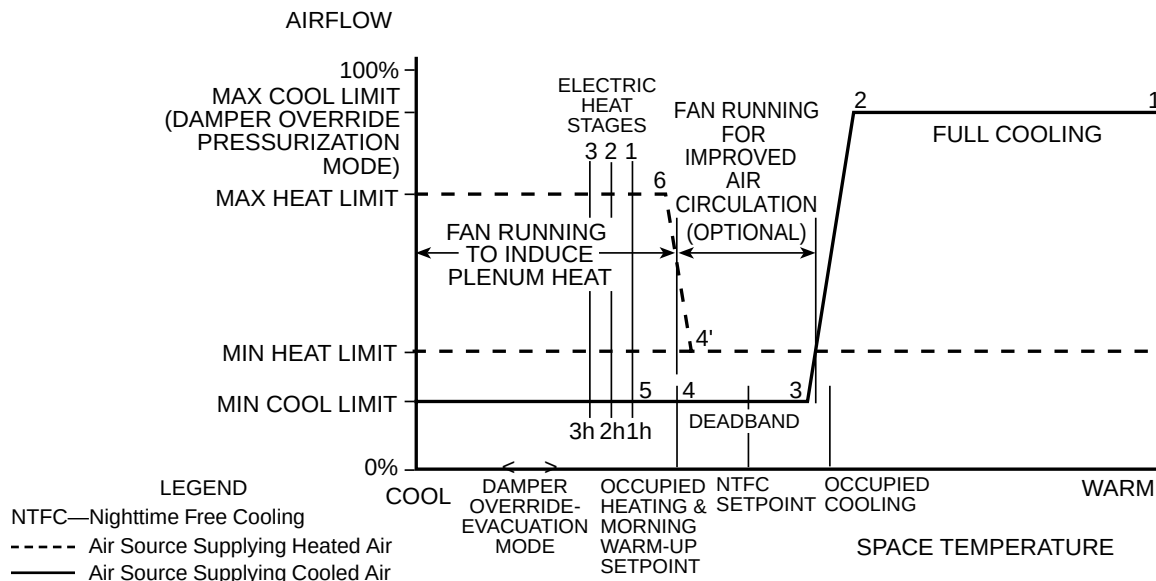

Figure 2 - Sequence of Operation for Intermittent Fan Powered Air Terminal With Staged Electric Heat
- A. Cooling: (refer to numbers on flow diagram). See Fig. 2.
- B. Auxiliary electric heating: (when the primary air source is cooling, refer to numbers on flow diagram). See Fig. 2. The installer is responsible for proper temperature, no more than 120 F maximum discharge from the heating
C. Heating: (when the primary air source is providing heated air, refer to numbers on flow diagram). See Fig. 2. The installer is responsible for proper selection of the temperature no more than 120 F maximum discharge from the heating apparatus for safe and proper operation.